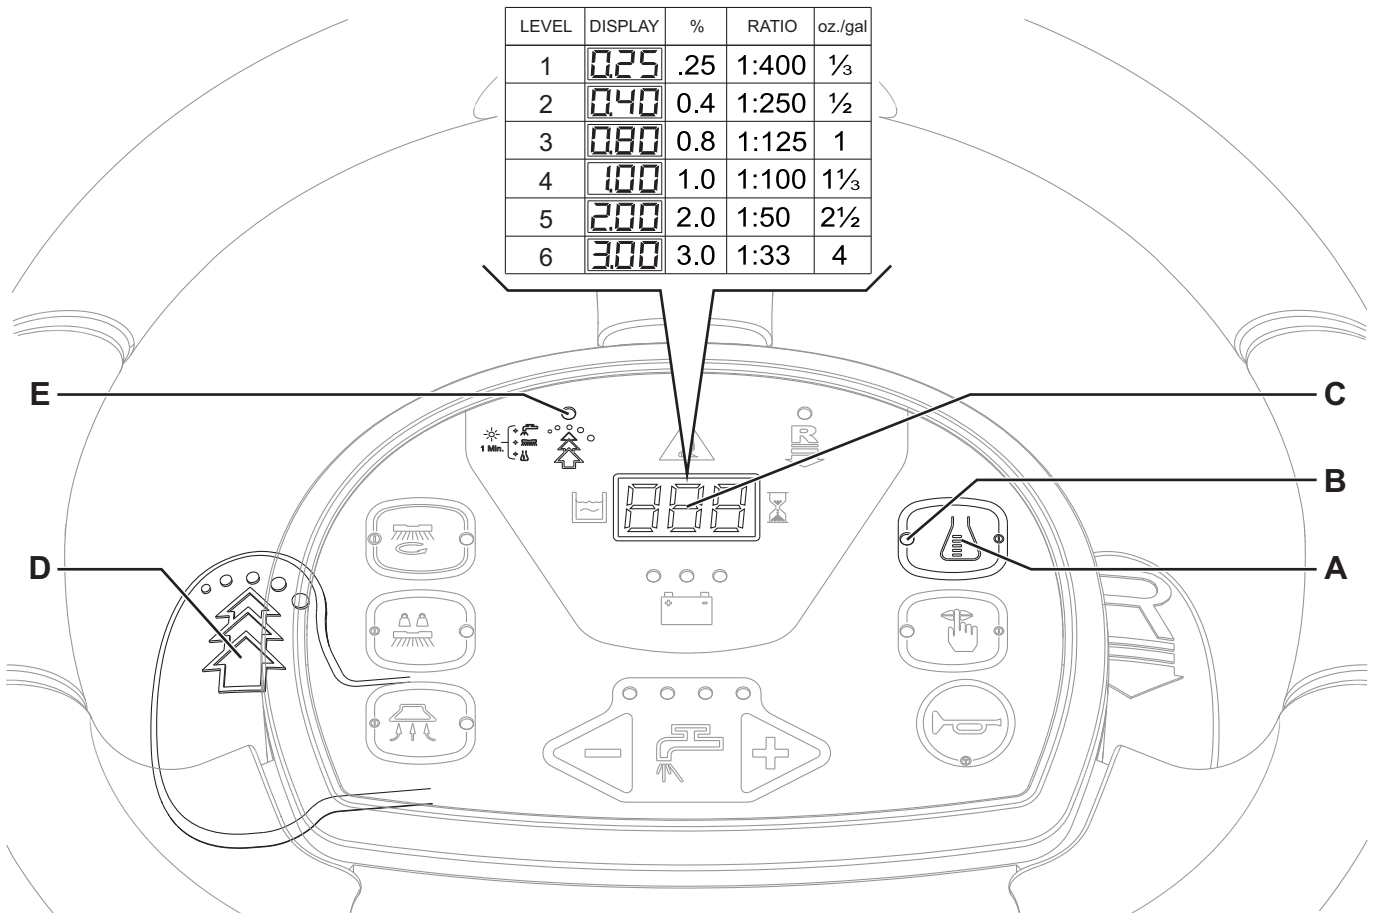

Figure 4
The system used to mix the detergent with the washing water can be activated by pressing the detergent flow control switch (A, Fig. 4): when the LED (B) is on, the detergent is added to the washing water.
1. Turn off the detergent flow control switch (A) (the LED (B) must be OFF).
2. Press and hold the detergent flow control switch (A) until the LED (B) flashes.
3. Release the switch (A). Press it again shortly to go to the next level shown by the display (C) as shown in the table in Figure 4; repeat the procedure until the desired setting is reached.
4. Wait until the LED (B) stops flashing: the new level is now set.
Lift the EcoFlex™ lever (D, Fig. 4) whenever a stronger washing power is required.